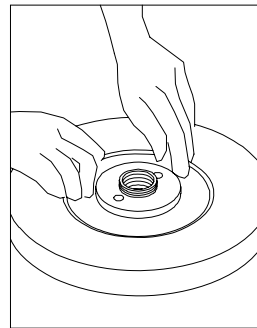

Fig6.11.3
- (2) Put the grinding wheel pressing plate and locking the grinding wheel hub lock nut as drawing FIG 6.11.3.